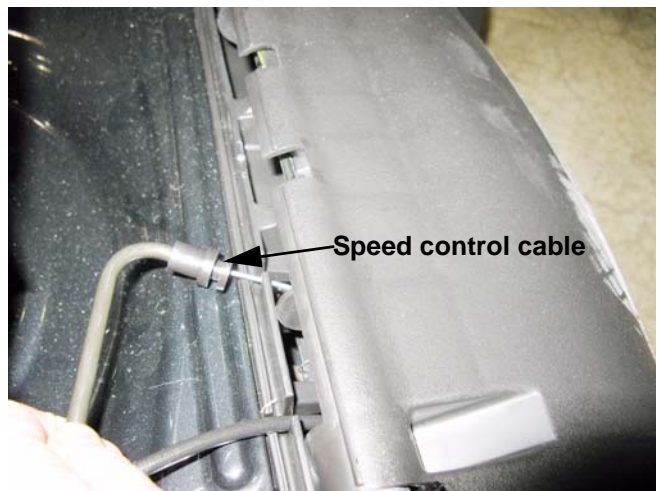

Figure 3.27
7. Draw the lower end of the clutch control cable out of the opening between the grass door and the rear edge of the deck. See Figure 3.27.